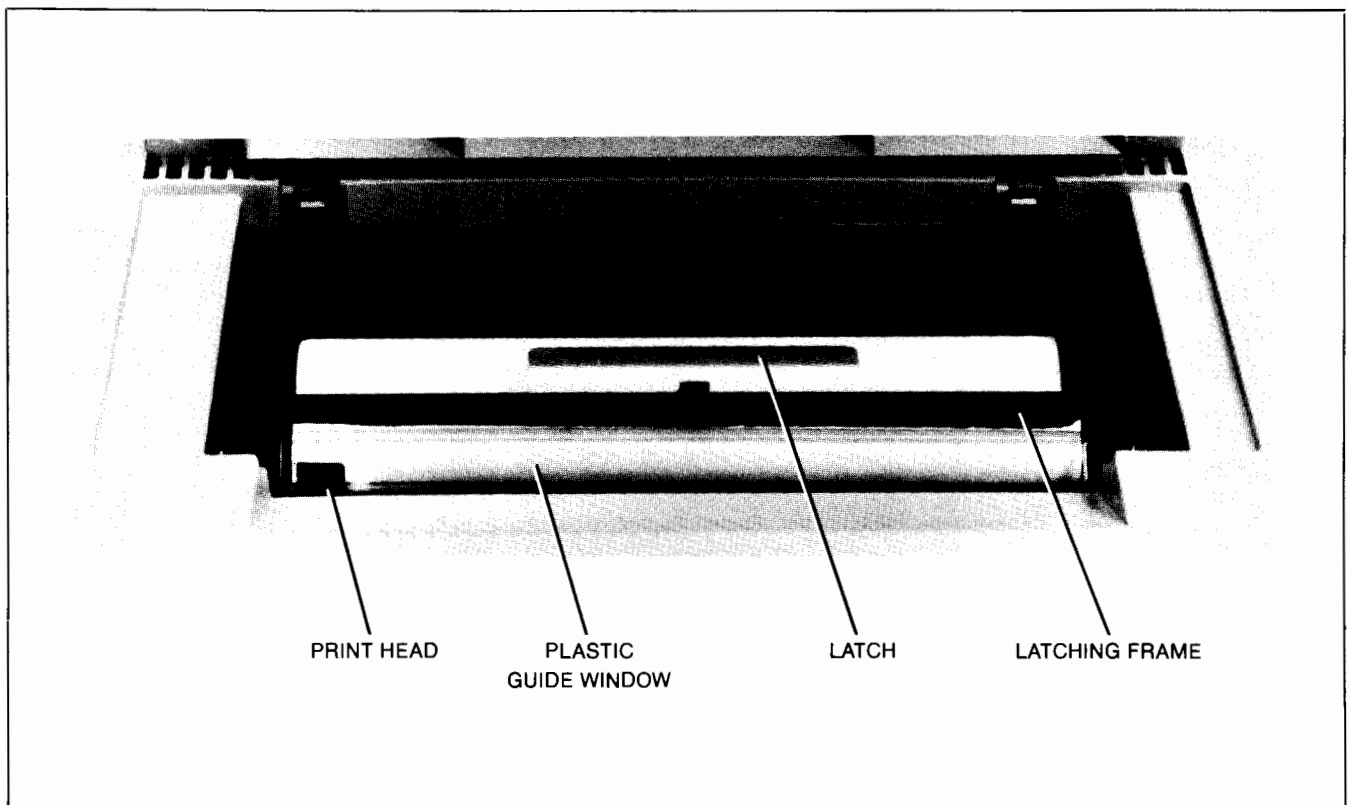

Figure 10-3. Printer Mechanism
The printer mechanism is shown in figure 10-3.
2. Press the latch (figure 10-3) toward the front of the terminal to release the latching frame. Lift the hinged latching frame to its forward position.